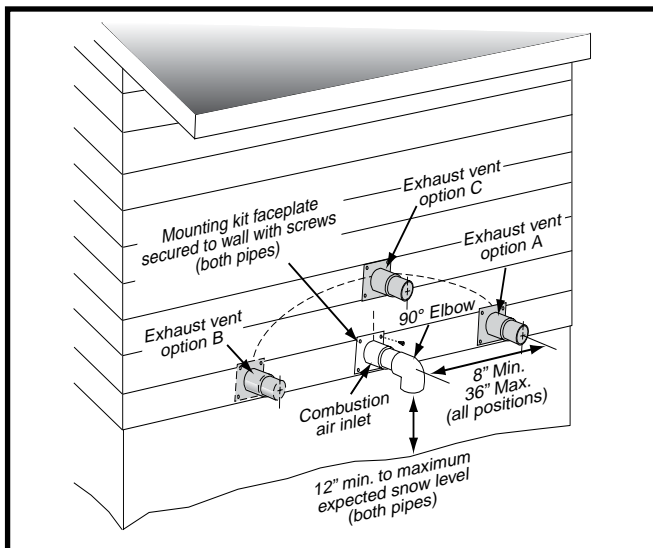

Figure 7. Inlet & Exhaust Pipe Clearances
- The combustion air intake and the vent exhaust must be located in the same atmospheric pressure zone. This means both pipes must exit the building through the same portion of exterior wall or roof as shown in Figures 7 - 10 and Figure 44 (page 44).
Vent and combustion air intake terminations shall be installed as depicted in Figures 7 & 8 and in accordance with these instructions:
- When the vent pipe must exit an exterior wall close to the grade or expected snow level where it is not possible to obtain clearances shown in Figure 7, a riser may be provided as shown in Figure 9 (page 12). Insulation is required to prevent freezing of this section of pipe. For vent freezing protection, see page 12.
- The combustion air inlet pipe must have a 90 degree termination elbow, and pointed downwards as shown in Figure 7 (page 11).